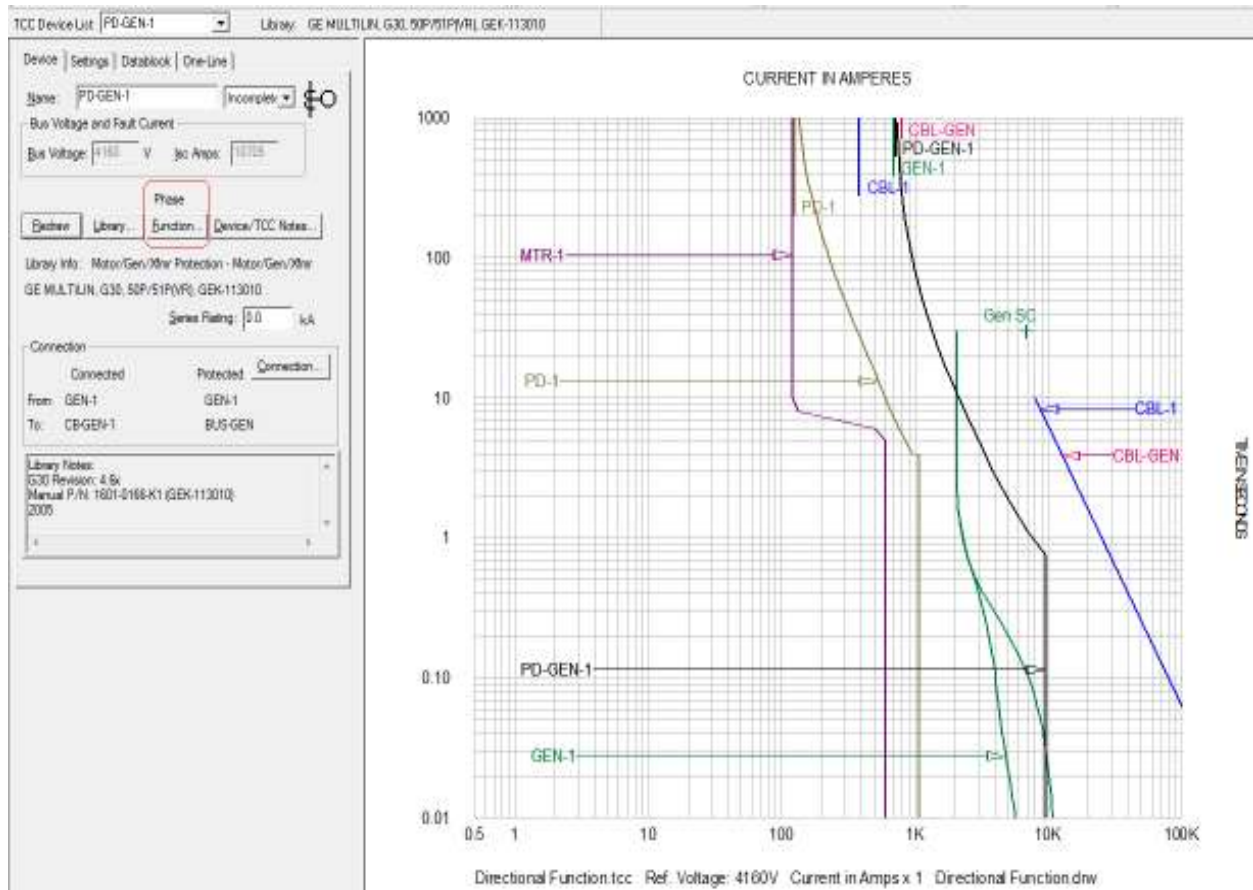

Figure 4
1. Select the PD-GEN-1 device in the Captor TCC drawing (Figure 4) and click the Function button to display the Protection Functions.